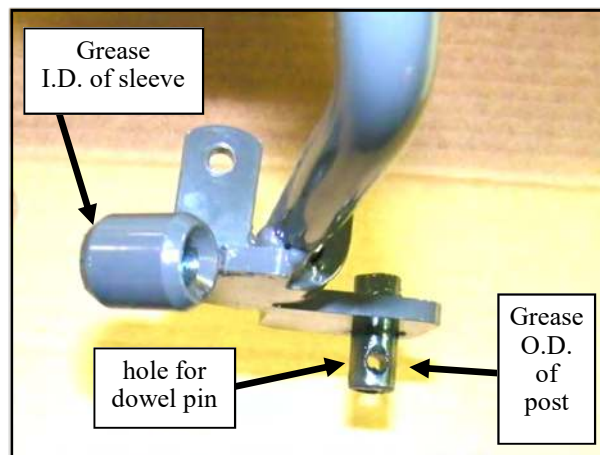
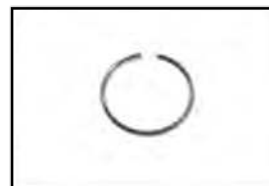
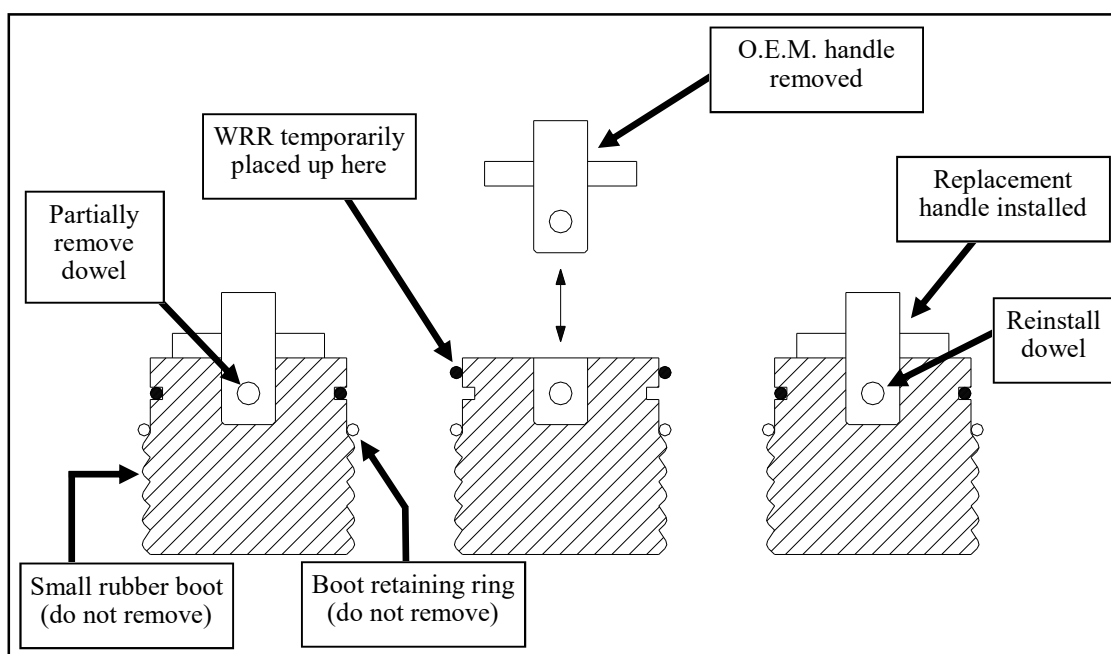

Fig. 1.7 (New replacement handle)
Fig. 1.7a (WRR)
Fig. 1.7c (section view of steps to be taken)
1.7 See Fig. 1.7. A dowel pin must be partially removed in order to remove the O.E.M. handle. The dowel pin is underneath a thin wire retaining ring (WRR) shown in figures 1.7a and 1.7b. Fig. 1.7c shows section views of before, during, and after the swap out. Note: the small shaded-in circle represents the WRR.
- Remove the O.E.M handle and install the replacement handle (grease where shown in Figure 1.7).